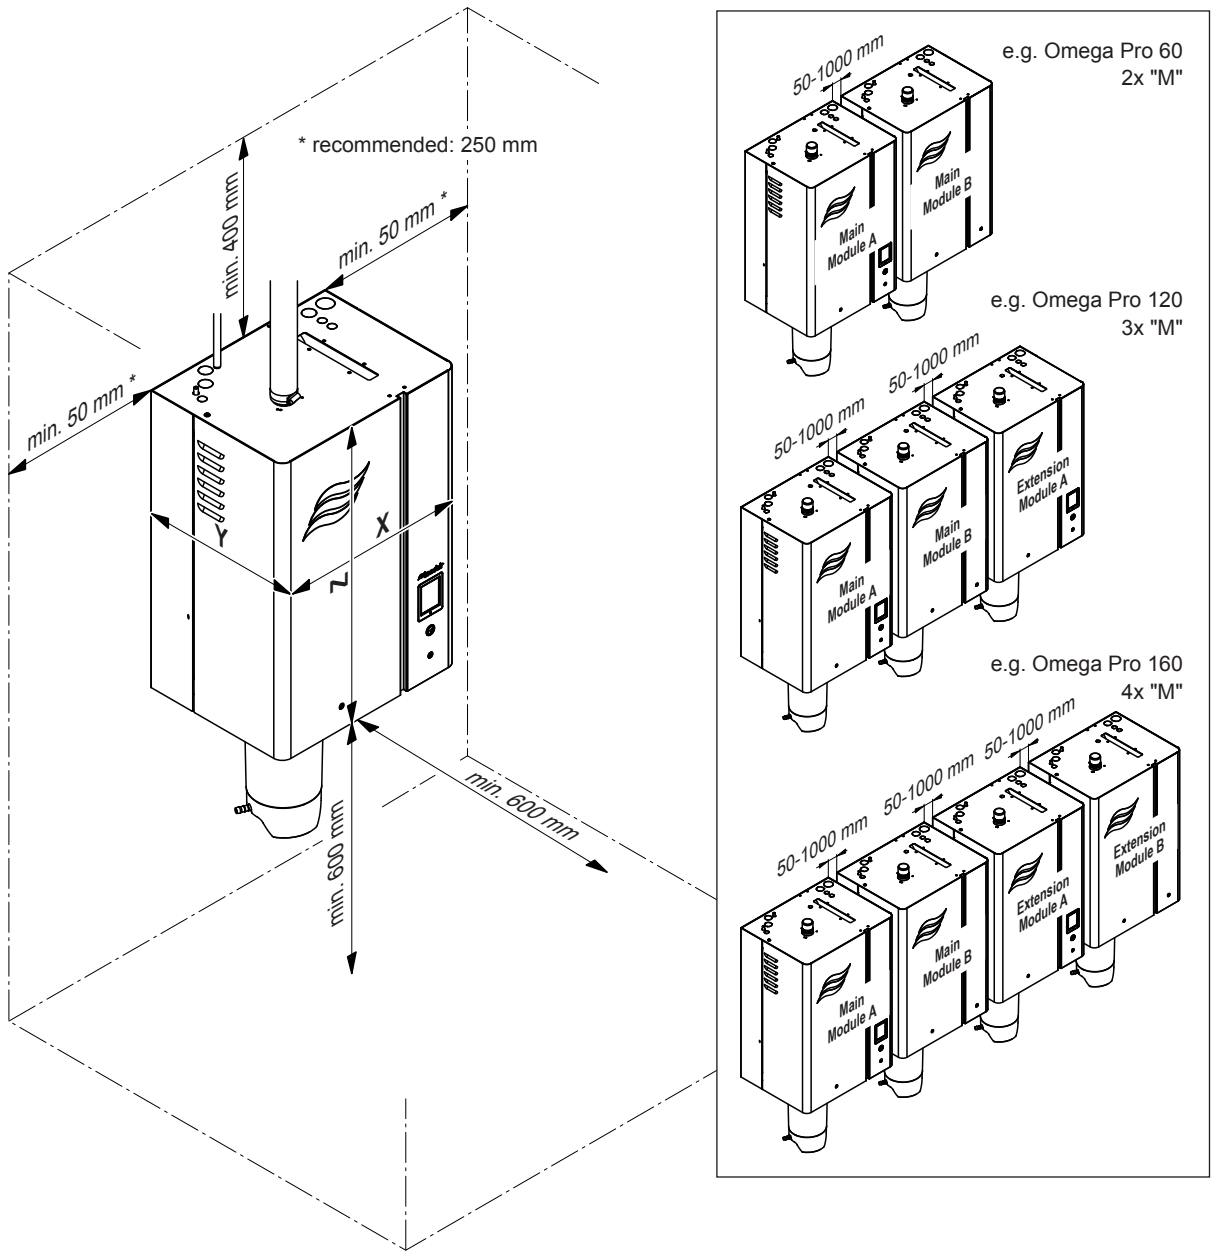

Fig. 9: Distances to be observed
- Install the Condair Omega Pro in such a manner that it is **freely accessible** with sufficient space available for maintenance purposes. The **minimum distances** shown in Fig. 9 **must be maintained**.
- In order to use the cables supplied with double units and Linkup systems, the individual units must be mounted side by side on the same height, with a maximum distance between the units of min. 50 mm to max. 1000 mm and in the order shown in Fig. 9.